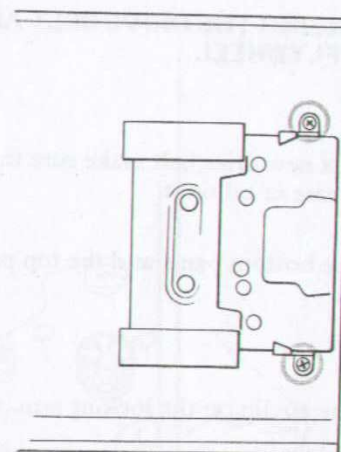

Fig. 3.8 Screws for head bridge guide brackets
- Remove the screws holding the head bridge guide brackets, see Figure 3.8. Push the brackets to the left and lift up. Allow the brackets to hang in the springs. Lift the head bridge out and to the side. Remove the drive belt from the counter.